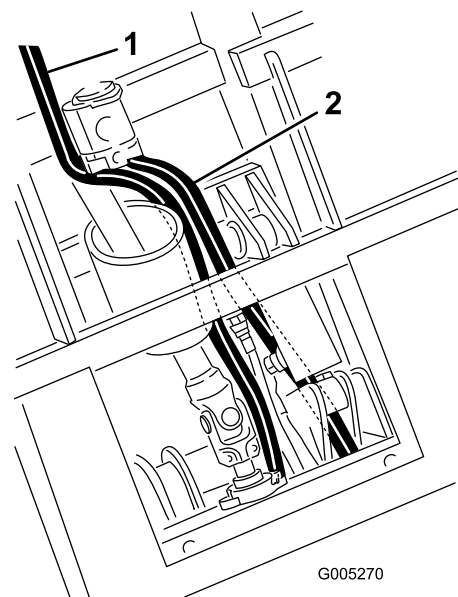

Figure 45
- Route the pressure hose under the lift cylinder and between the cylinder mounting brackets to the valve (Figure 45).
- Route the tank hose along side the PTO shaft to the valve (Figure 45).